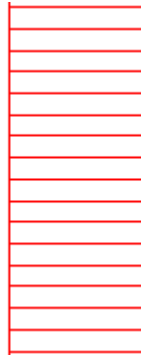

Figure 8-6 Case #3
- o Case #3: Uniform result. (Figure 8-6)